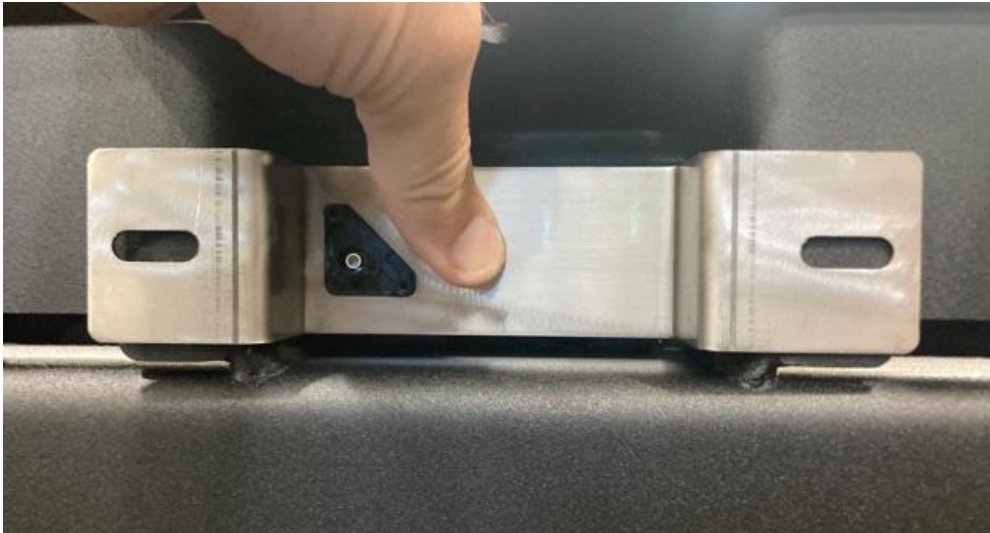

Figure 12.2
4. MY2025 Holding the camera and spacer onto the bracket, secure the bracket and camera into the front bumper using supplied M6 bolts, washers, and nuts. Some MY2025 Customers may need to drill 2 – 7.5mm holes to mount camera bracket to center section of bumper. (fig. 12.2)